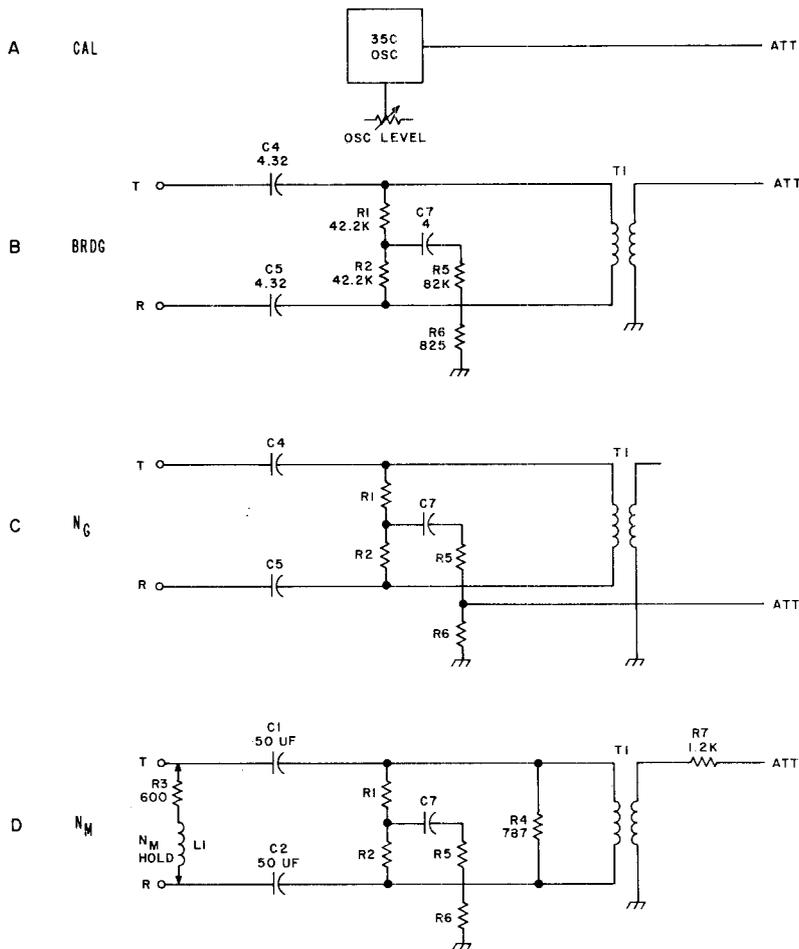

Fig. 3—Input Circuits, Simplified Schematic
- (c) The CAL position applies battery to the internal oscillator. A 1000-Hz tone from the oscillator is connected directly to the attenuator for calibration purposes, as shown in Fig. 3.